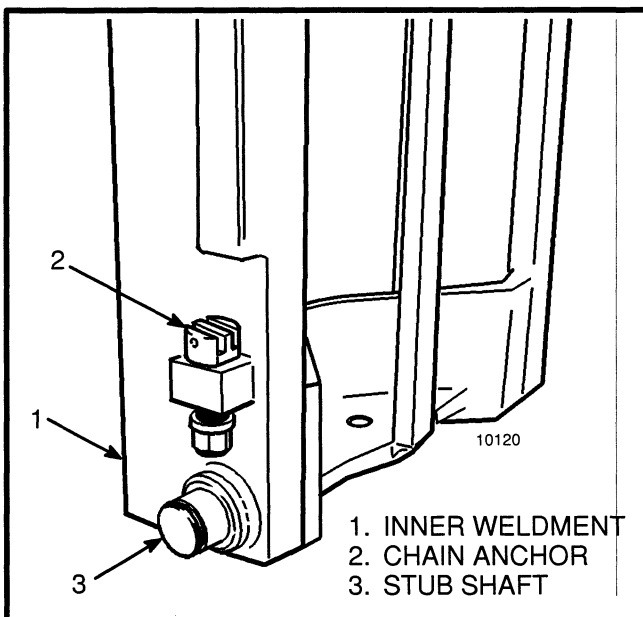

FIGURE 10. CHAIN ANCHORS
8. Disconnect the lift chains from the chain anchors at the bottom of the inner channel. See FIGURE 10. Remove the lift chains.